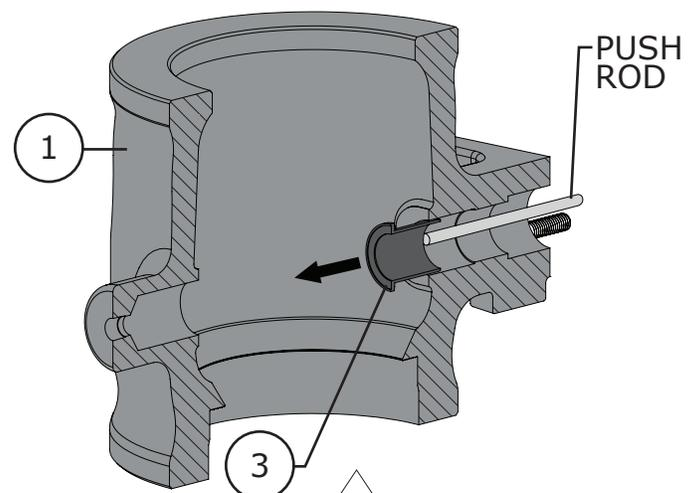

Figure 29C 3 to 16 Inch Inboard Bearing Removal
- 2 Pull or drive the inboard bearing (Key 3) towards the center of the valve body (Key 1) and remove it. Refer to Figure 29C.